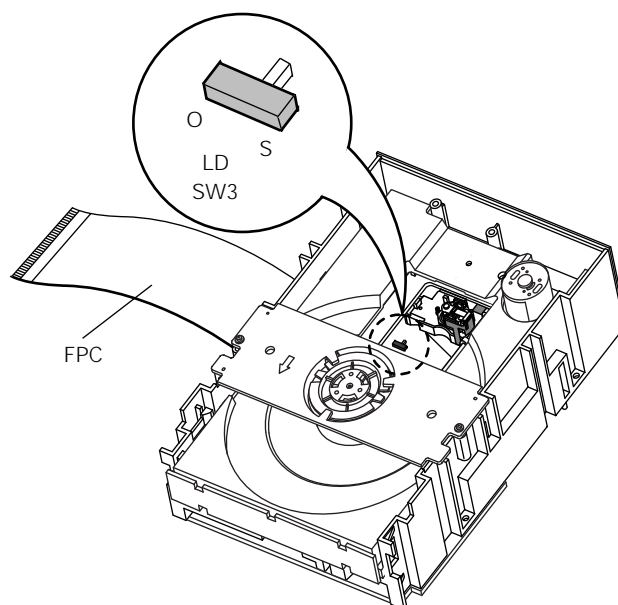

Fig. 1-2
See Fig 1-2.)
- 4) Switch LD SW3 on deck PCB to 'O' and insert FPC into Main PCB CN1 (See Fig 1-2).